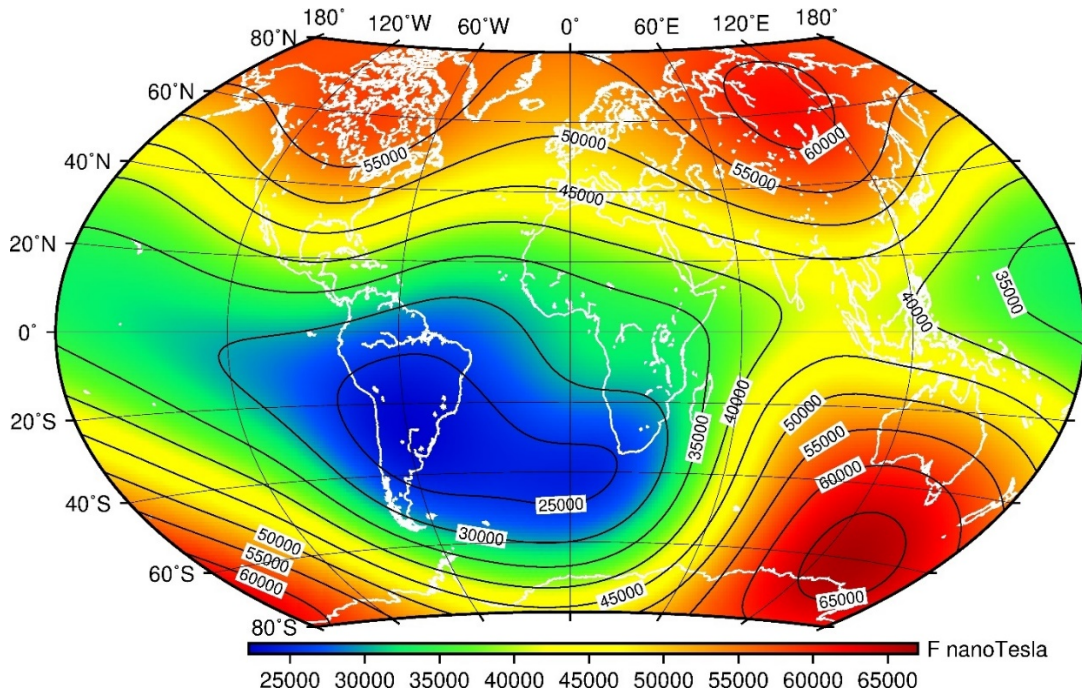

Figure 18 Map of Total Intensity at 2020.0⁷
To verify the sensor's reading, locate yourself on the map in Figure 18 and find out the total intensity in your region. The unit in the figure is Nano Tesla (nT) while the Demo Software measure in Gauss (G). 1 nT is equal to 10 μ G, so divide the numbers in the figure by 100,000 to get their equivalent value in Gauss. For example, 45000 nT in the figure is 0.45 G in the Demo Software.